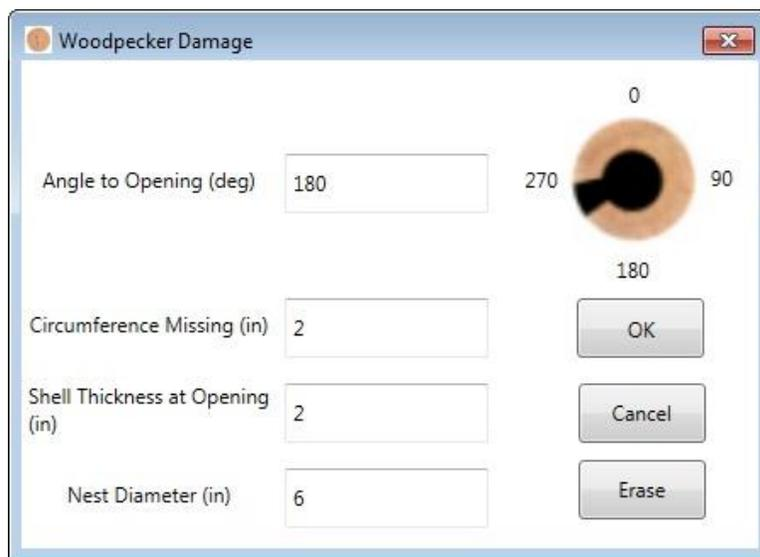

Figure 2-12. Damage Parameters for Example 2
4. Enter **180** for “Angle to Opening (deg)” (or click on the corresponding location on the graphic), **2** for “Circumference Missing (in)”, **2** for “Shell Thickness at Opening (in)”, and **6** for “Nest Diameter (in)” (Figure 2-12).